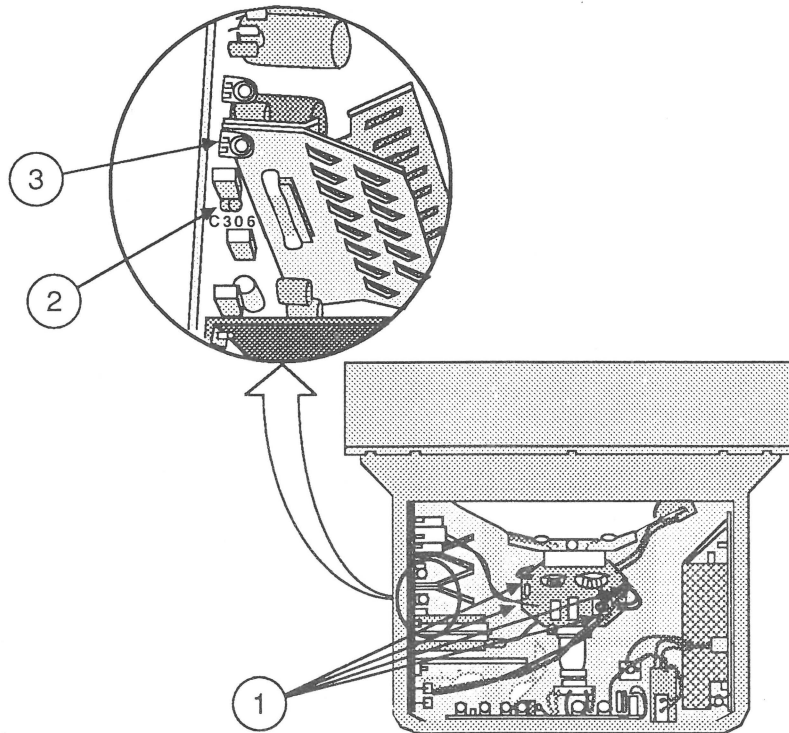

FIGURE 12
WARNING: *There are extremely high voltages on the entire yoke assembly (Figure 12, #1). To prevent electrical shock, do not touch the yoke assembly or any of the yoke wires when performing vertical adjustments!*
2. If the top two rows of boxes on the screen are not the same height, use a plastic alignment tool to adjust the orange capacitor at C306 (Figure 12, #2) on the main board until the boxes are the same height.
3. If the boxes at the top and bottom rows of the monitor screen are not of equal height, use a plastic alignment tool to adjust the VERTICAL LINEARITY control (Figure 12, #3) until the boxes are of equal height.